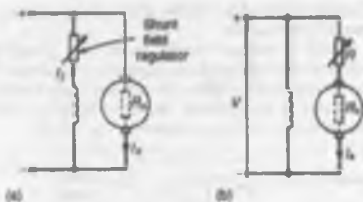

Figure 22.29
(see equation (9)). The speed is varied either by varying the value of flux, Φ , or by varying the value of R_a . The former is achieved by using a variable resistor in series with the field winding, as shown in Fig. 22.29(a) and such a resistor is called the **shunt field regulator**.
are obtained by increasing the resistance in the armature circuit, as shown in Fig. 22.29(b), where
- (a) With reference to Fig. 22.29(b), back e.m.f. at 120 A, $E_1 = V - I_a R_a = 500 - (120)(0.2) = 500 - 24 = 476$ volts. When $I_a = 60$ A,